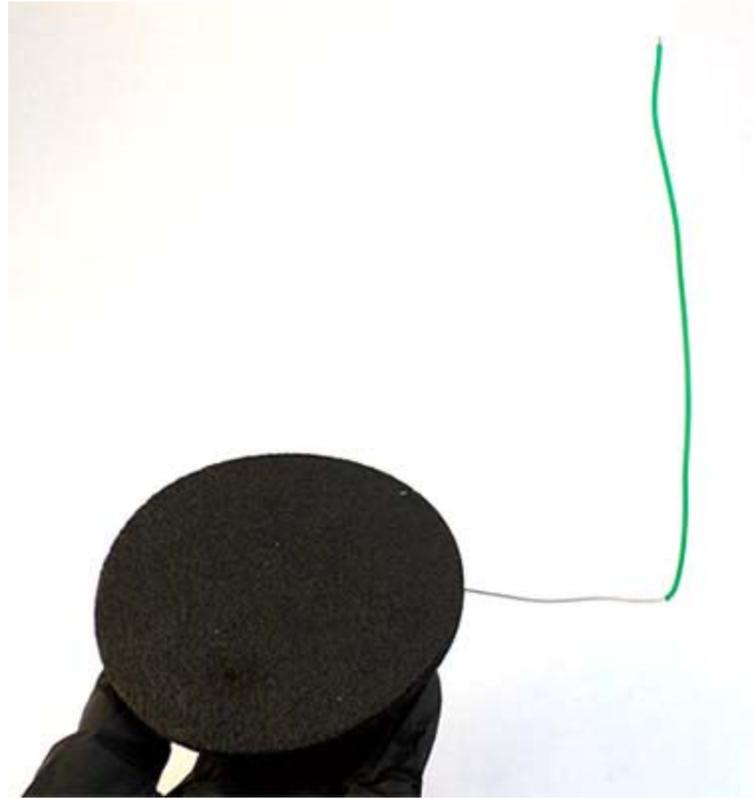

Figure 2. Insert the metal part of the green wire into the anode circle.
7. Straighten the metal part of the green wire and carefully insert it into the anode, as shown in Figure 2. Make sure the wire goes straight and does not poke out on the top or bottom sides of the anode.